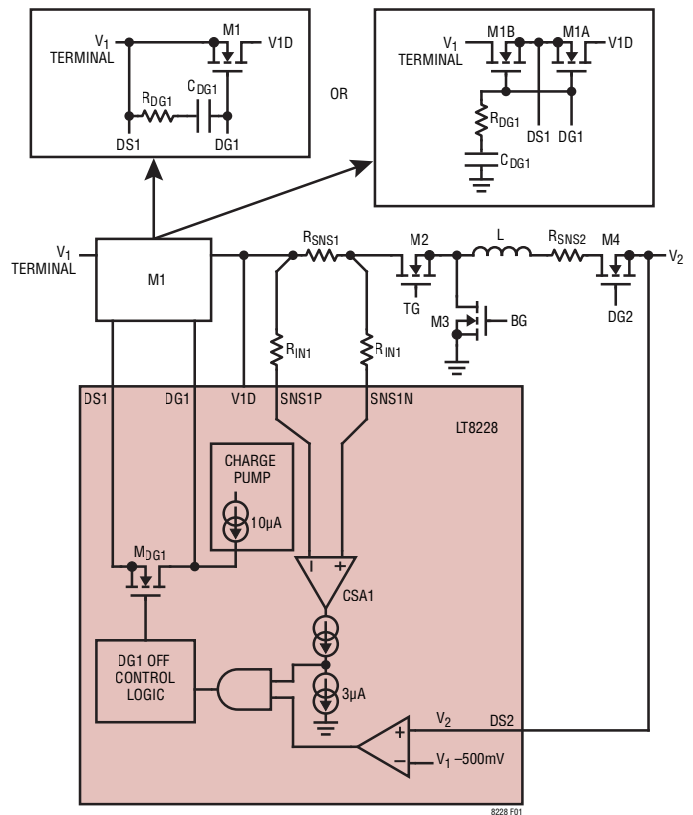

Figure 1. M1 Control in Buck Mode
The LT8228 provides protection functionality at the V₁ terminal using two N-channel MOSFETs M1A and M1B connected back-to-back in series or a single N-channel MOSFET M1 as shown in Figure 1. In dual MOSFET back-to-back configuration, DS1 is the source and DG1 is the gate of both M1A and M1B. V1D is the drain of M1A and V₁ is the drain of M1B. In single MOSFET configuration, the source of M1 is connected to DS1 and the V₁ terminal, DG1 is the gate and V1D is the drain. The advantages of the dual MOSFET configuration are inrush current control and complete isolation of the V₁ terminal in a fault condition. In normal operation, the controller drives DG1 high with a typical 10 μ A pull-up current that enhances the V₁ protection MOSFETs to provide a low loss conduction path between V₁ and V1D. The DG1 voltage is clamped at a typical value of 10V above DS1. The DG1 controller shorts DG1 to DS1 thereby isolating V₁ from the rest of the circuit when (1) the LT8228 is disabled or
The buck mode operation circuitry of the V_1 protection MOSFET controller is shown in Figure 1. Without protection MOSFETs, there is a direct conduction path from V_2 to V_1 through the body diode of the top MOSFET M2. If V_2 is higher than V_1 by a forward diode voltage, uncontrolled reverse current flows from V_2 to V_1 . Unlike other buck controllers, the LT8228 provides protection from this reverse current condition using the V_1 protection MOSFET. If V_1 falls within 500mV of V_2 and R_{SNS1} current passes negative threshold, the LT8228 detects reverse current. A fast pull-down circuit shorts DG1 and DS1, turning off M1. This isolates V_1 from V1D and stops any reverse current. The reverse current detect threshold is set by Equation 11.
In dual MOSFET configuration, inrush current to C_{DM1} and C_{DM2} in buck mode is limited by controlling the DG1 pin voltage slew rate. In this configuration, the compensation resistor R_{DG1} and capacitor C_{DG1} are ground referenced as shown in Figure 1. At start-up, a $10\mu A$ pull-up current charges DG1, pulling up both MOSFET gates. M1B operates as a source follower (see Equation 12).